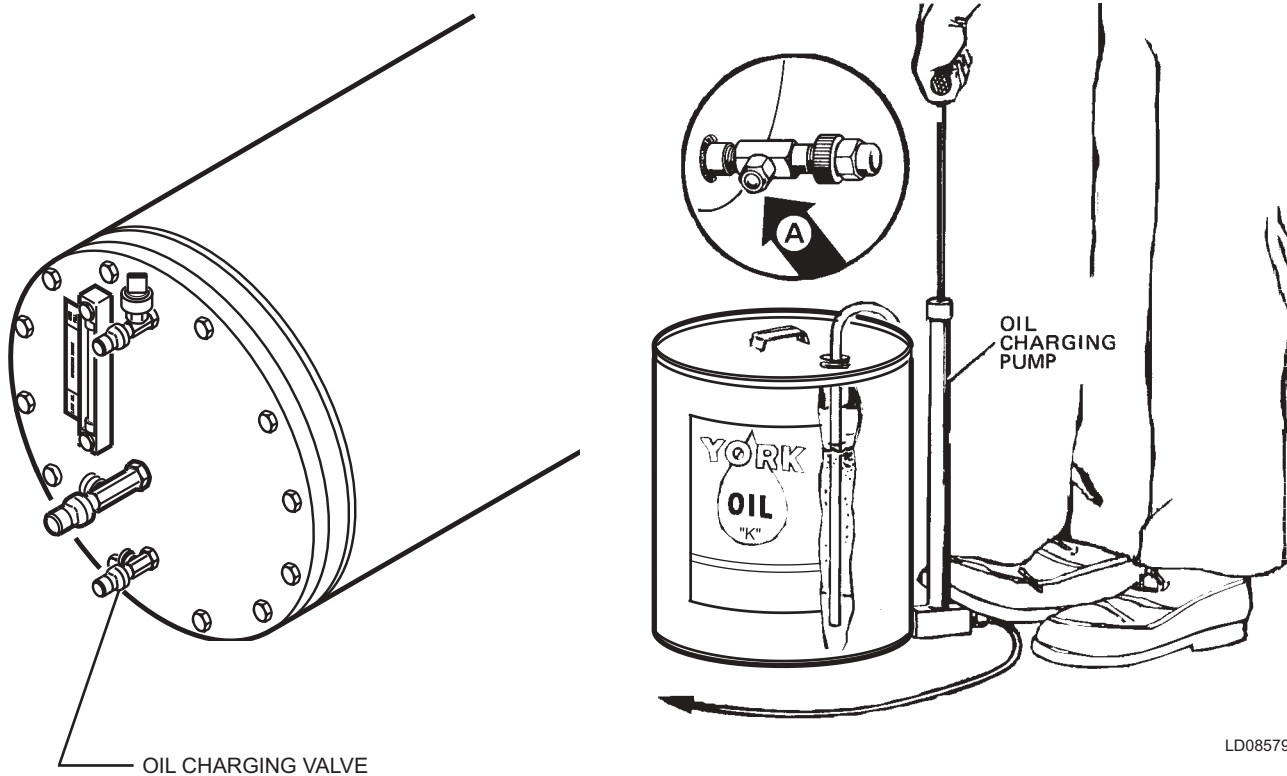

FIG. 10 – CHARGING OIL RESERVOIR WITH OIL
pump in a clean container of new oil and connect the pump discharge connection to the oil charging valve (A) located on the remote oil reservoir cover plate. (See Fig. 10.) Do not tighten the connection at the charging valve until after the air is forced out by pumping a few strokes of the oil pump. This fills the lines with oil and prevents air from being pumped into the system.